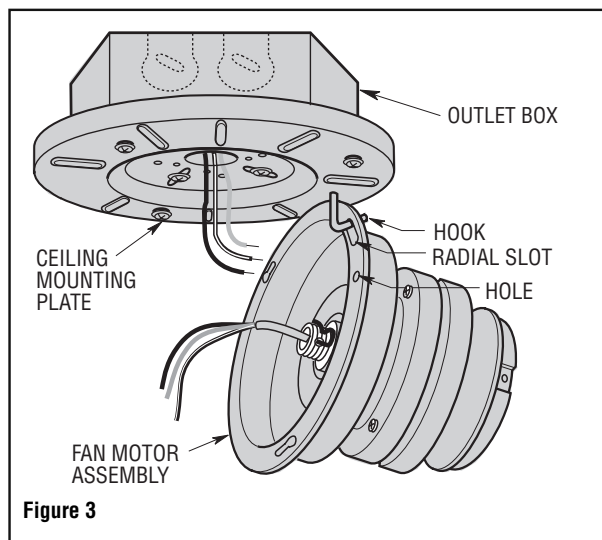

Figure 3
1. Temporarily hang the fan motor assembly onto the ceiling mounting plate hook using the radial slot nearest the circular hole (Figure 3).